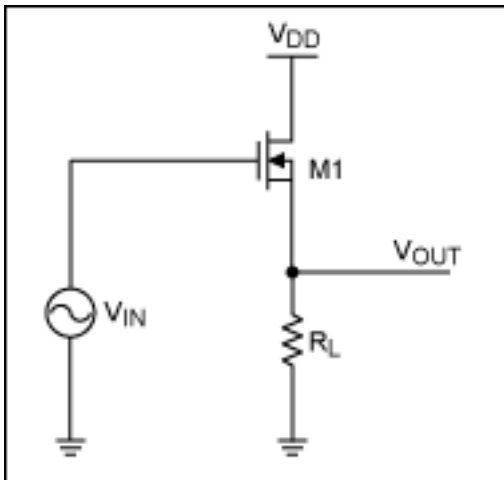
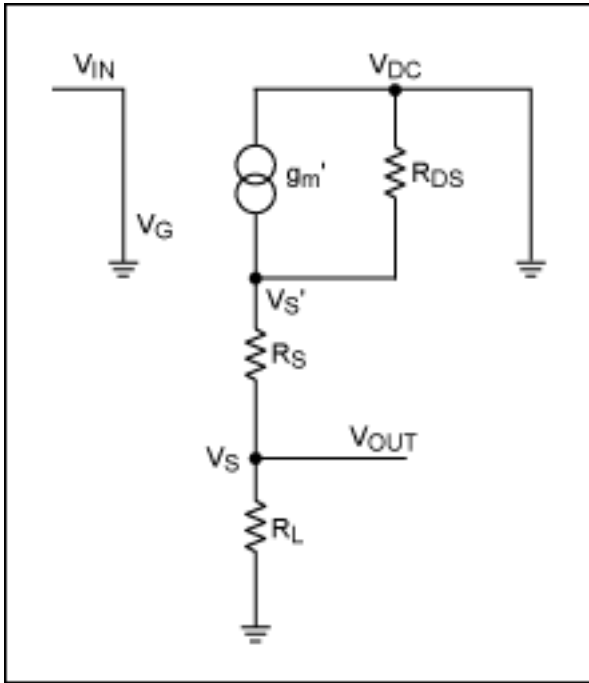
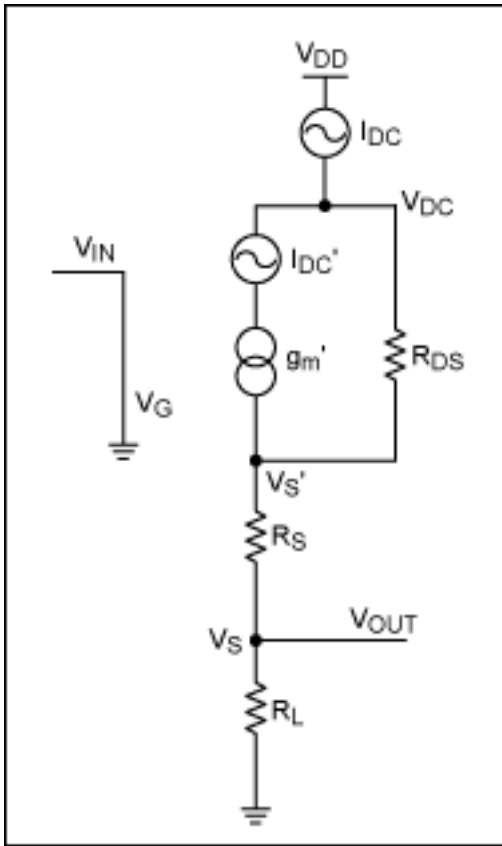

Figure 1. Test circuit for gain measurements.
Figure 2. Small-signal model of the Figure 1 circuit.
Figure 3. A DC model of the simple common-drain follower.
The circuit in **Figure 1** shows a simple common-drain amplifier used to measure gain.
Figure 2 shows a small-signal model that can be drawn from the Figure 1 circuit.
From Figure 2, it can be shown that the gain (G) of a simple common-drain follower is:
Using a TSMC 0.18 μm process with a CMOS device (the Figure 1 nFET, M1) having a width of 5 μm and a length of 0.18 μm , the expected gain and measured gain were obtained for a 100mV AC waveform at 10kHz (see **Table 1**).
Figure 3 shows the circuit that results from calculating a DC solution for the Figure 2 small-signal model.
The following parameters can be extracted from a simulation using the Figure 3 model:
Using the Figure 2 small-signal model, the following measured gain equation can be derived. This equation takes into account the effects of g_m' by R_{DS} , as previously described.